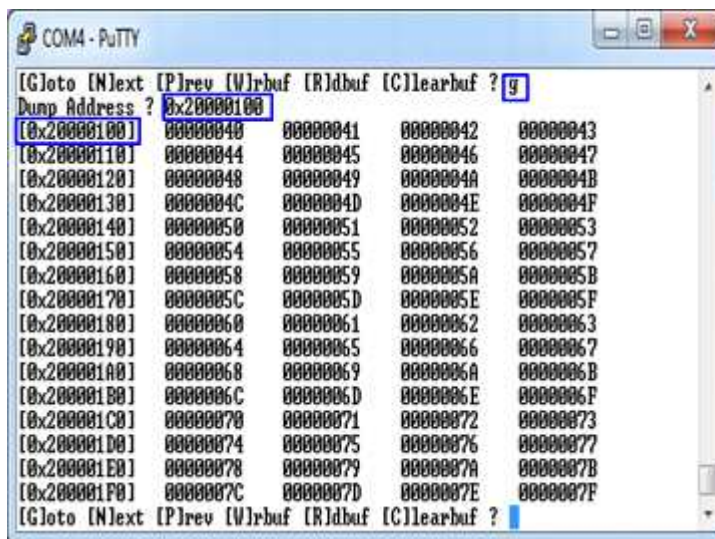

Figure 3-8 Goto submenu example
- 'G': this submenu is used to select the address to read, as shown in Figure 3-8. The address can be input to be hex value by adding prefix "0x", so normally input will be received in decimal value.